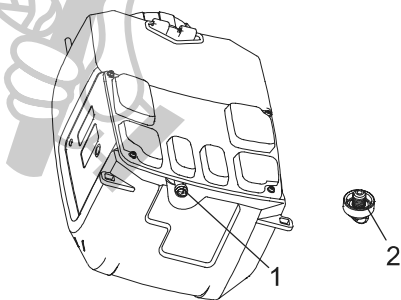

Figure 15
4. Unscrew the red cap to open water inlet hole, and then connect the hole to the water tap. Make sure the O-ring is placed inside the red cap. Refer to Figure 15.